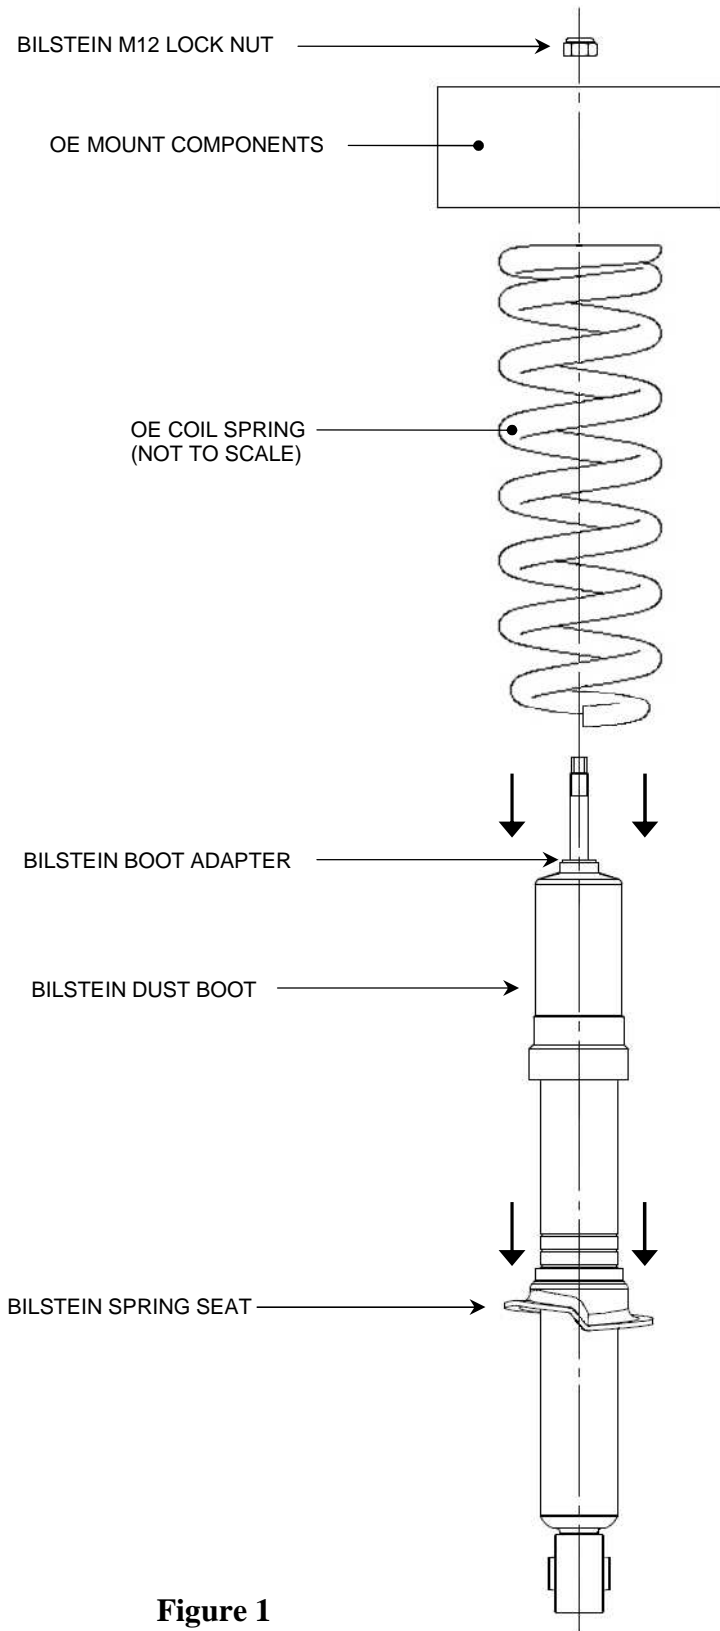

Figure 1
2. Re-install the dust boot and boot adapter onto the stem of the rod as shown. The boot adapter is clipped into the top of the dust boot. Install OE coil spring and re-install all original mount parts in reverse order of removal in accordance with the vehicle manufacturer's Service Manual. Please refer to Figure 1 for the proper order of installation of the module components.